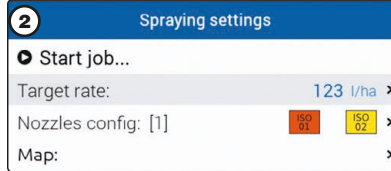

Fig. 287
- 2 Check the **Spraying settings** in Fig. 287; modify them if necessary.